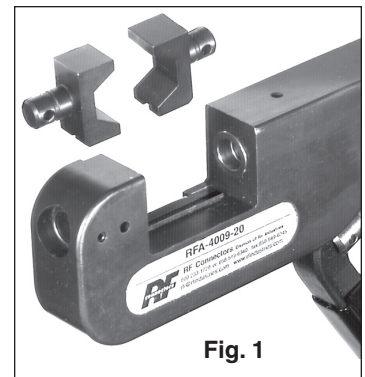

Fig. 1
1. Align die halves so that rail slot is on bottom. (Fig. 1)